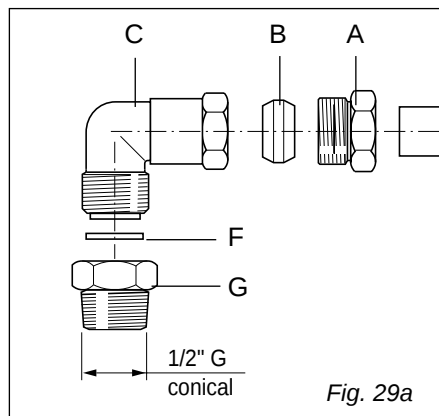

Fig. 29a
The fitting is made up of: (fig. 29a - 29b):
- ✓ **Gasket F and bicone B (Fig. 29a - 29b) guarantee the seal of the gas connection. Replace them whenever they are even slightly deformed or imperfect.**